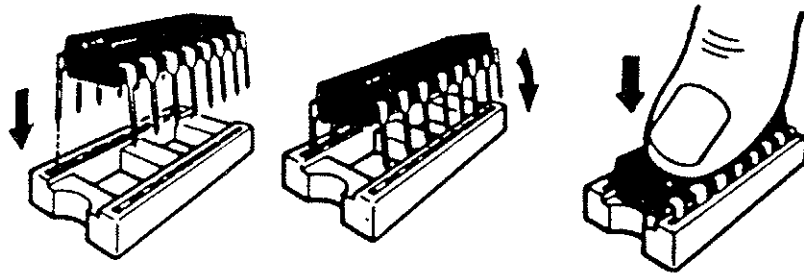

Figure 4-3. Installing the Chip
- 4 Align the pins on the chip with the corresponding holes in the socket, then tilt the chip slightly to partially insert one side before the other. See Figure 4-3.